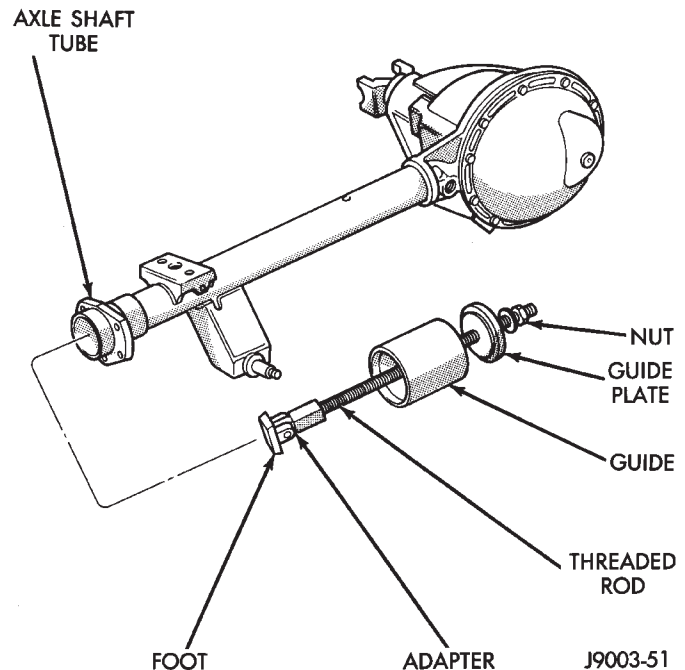

Fig. 11 Axle Shaft Bearing Removal Tool
(3) Remove the axle shaft bearing from the axle tube with Bearing Removal Tool Set 6310, using Adapter Foot 6310-9 (Fig. 11).